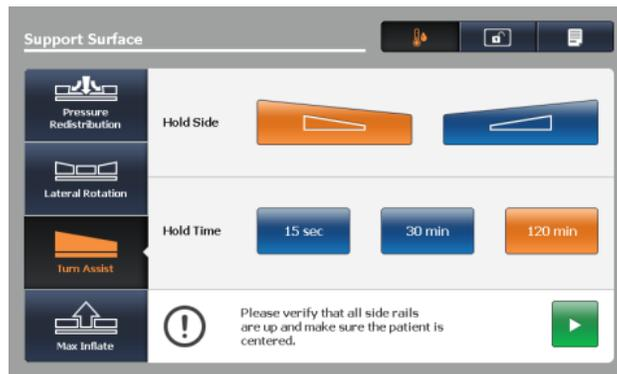

Figure 58 – Turn assist screen
3. Tap **Turn Assist** (Figure 58).